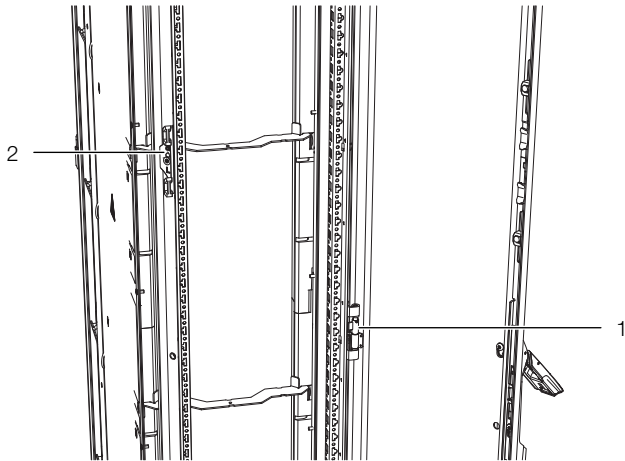

Fig. 34: Assembly components on the Liquid Cooling Package – rear view
- Dismantle the hinge pin holding fixtures (fig. 34, item 1) and corresponding fixing components (fig. 34, item 2) from the LCP Inline and reassemble at the rear of the adaptor in the same way.